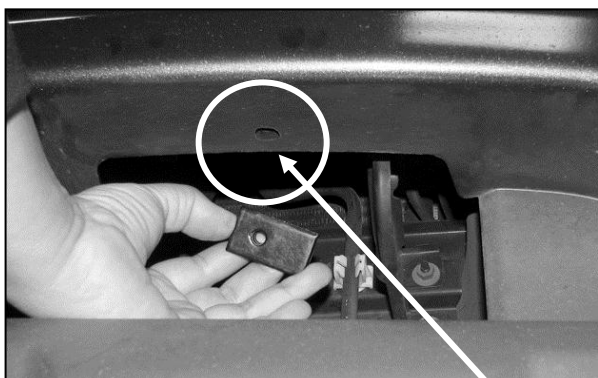

Fig 4
4. Locate and remove the two plastic clips located in the grille opening. Insert (1) 8mm x 25mm Nut plate into the opening and line up the threaded hole with the hole in the grille opening, **(Figure 4)**.